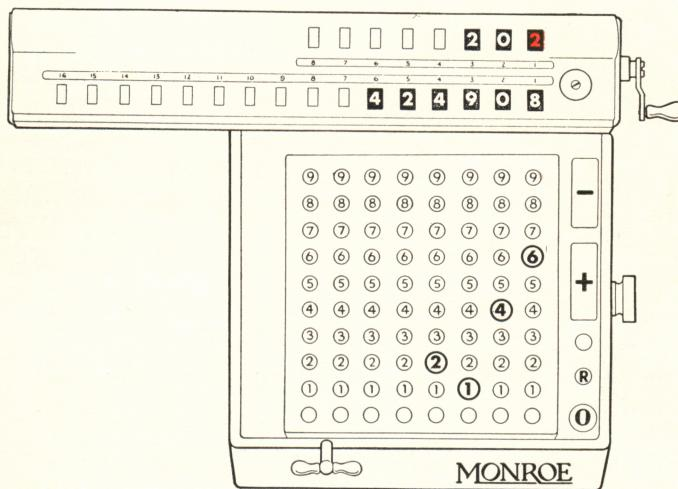

Figure 13
Step 2—Then move the carriage to the left two places so that it is in the "1" position. With the minus bar subtract twice. The answer, 424908, will then appear in the lower dials. In the upper dials will be 202, i.e., 200 less 2. See Figure 13.